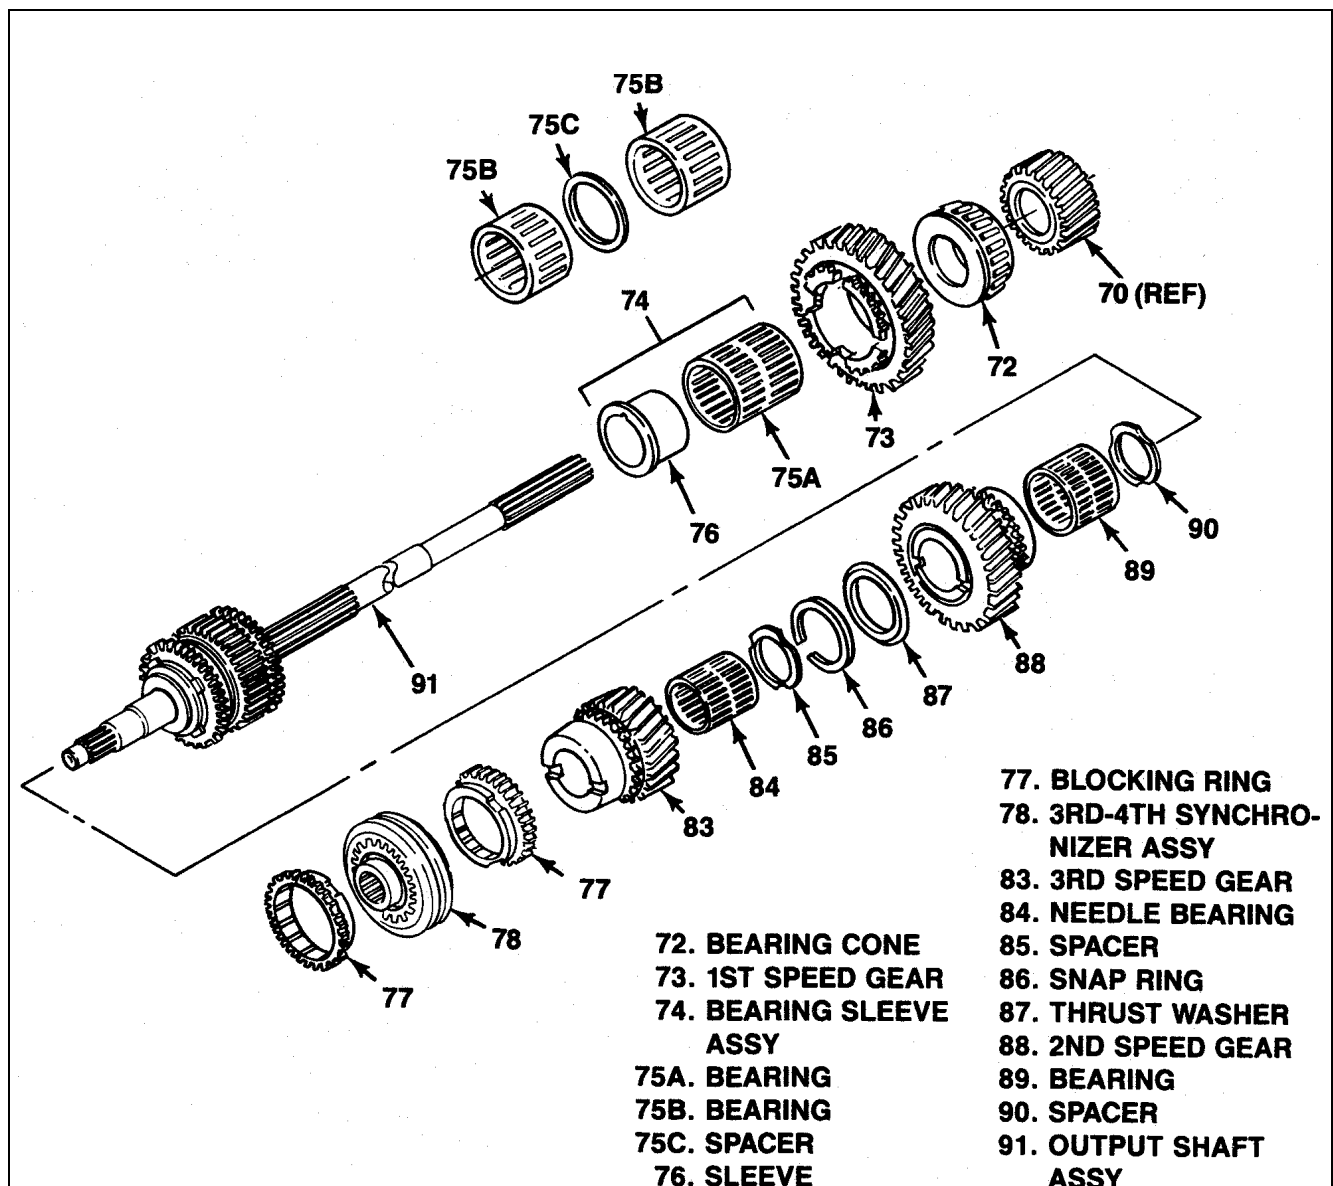

Figure 6-9. Assembly of T5 WC Output Shaft Assembly
**6.11. ASSEMBLY OF T5 WC OUTPUT SHAFT GROUP.** After assembly of output shaft assembly (91) as described in paragraph 6-10, proceed as follows (see figure 6-9):
- a. Install spacer (90), bearing (89), 2nd speed gear (88), thrust washer (87) and snap ring (86).
- b. Install spacer (85), bearing (84), 3rd speed gear (83) and one blocking ring (77).
- c. Install 3rd-4th synchronizer assembly (78) (as assembled in paragraph 6-6), aligning notches in installed blocking ring (77) with synchronizer inserts. Use a suitable drift that bears on synchronizer hub only.
- d. Install remaining blocking ring (77), aligning notches with inserts in installed 3rd-4th synchronizer assembly (78).
- e. At other end of assembly, install sleeve (76) and 1st speed gear bearing as follows, according to type: